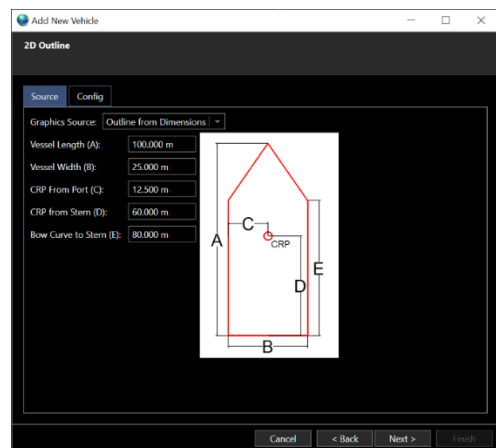

FIGURE 7-7 VEHICLES - NEW VEHICLE WIZARD – 2D OUTLINE PAGE – DIMENSIONS
- i. **Dimensions:** Enter respective distances to define the vessel relative to the CRP as shown in see Figure 7-7.